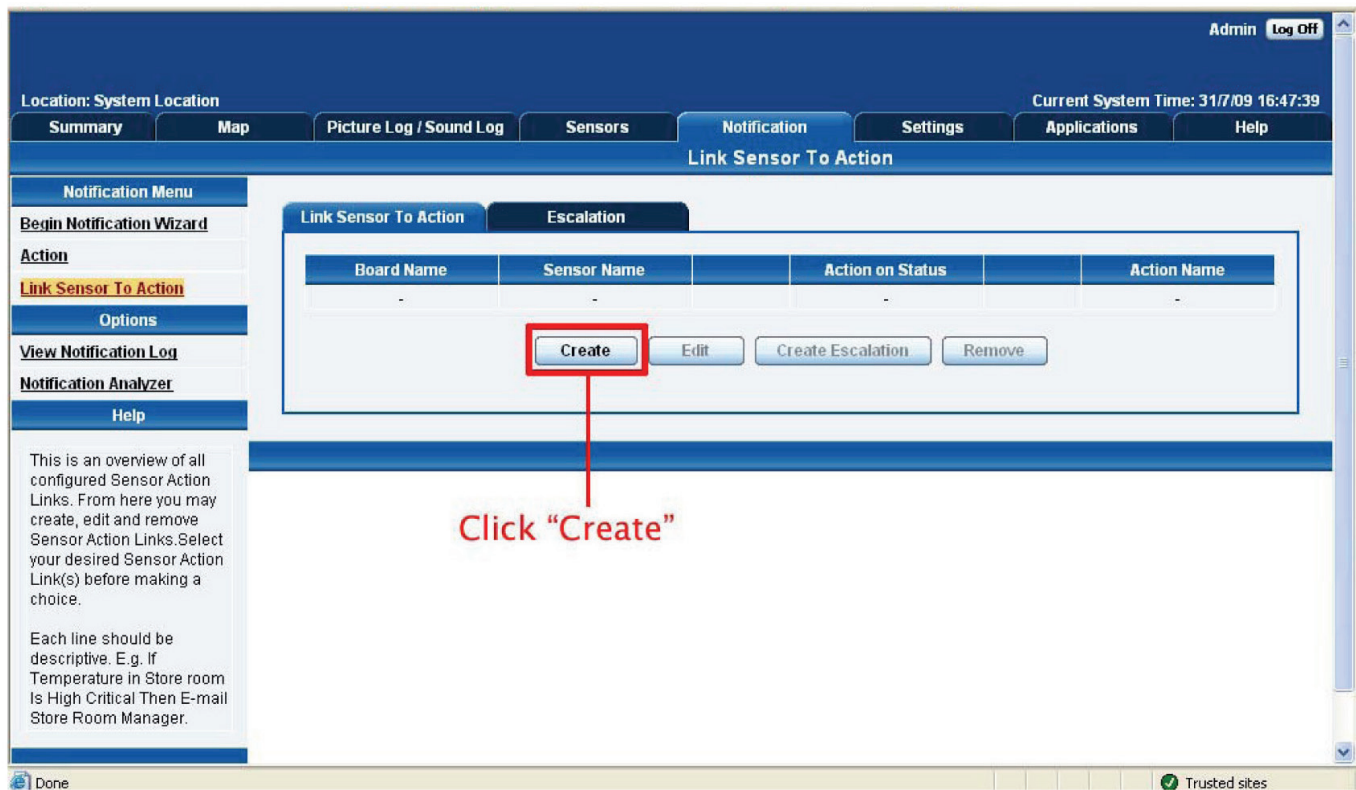

Figure 4-7. Notification tab.
- Once we have created the parameters for the SNMP trap, we need to make it active. To do this, go back to the "Notification" tab. It should look like the screen shown in Figure 4-7.